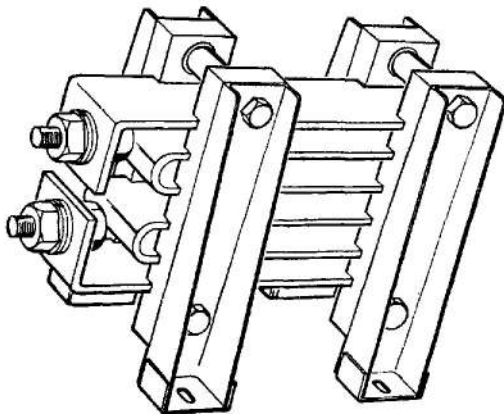

Fig. 1. Resistor unit, Type ZA 8301
2. The unit (fig. 1) comprises a resistor element formed from folded "Brightray" strip which is mounted in four "Micallex" insulated clamp brackets. The resistance of the element is 0.015 ohm.